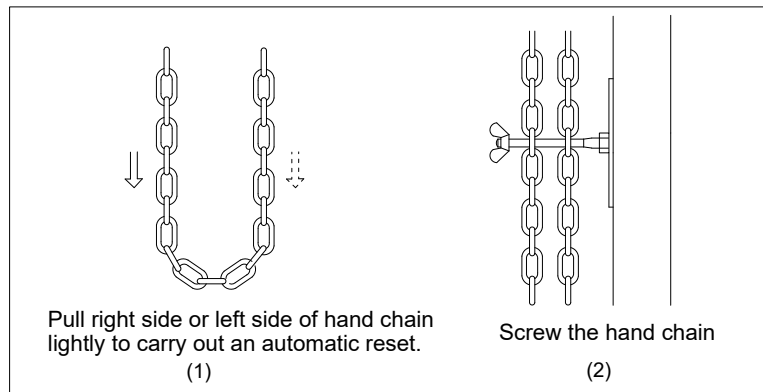

Fig.10
If the operator does not work electrically and the close indicator light on the control unit flashes, pull one side of hand chain lightly until a reset is carried out see Fig.10 (1), the light turns off, now the electronic control unit can be used.
- It is recommended to fix the lower part of the chain as shown in Fig.10 (2), to avoid hindrance to people and equipment move.